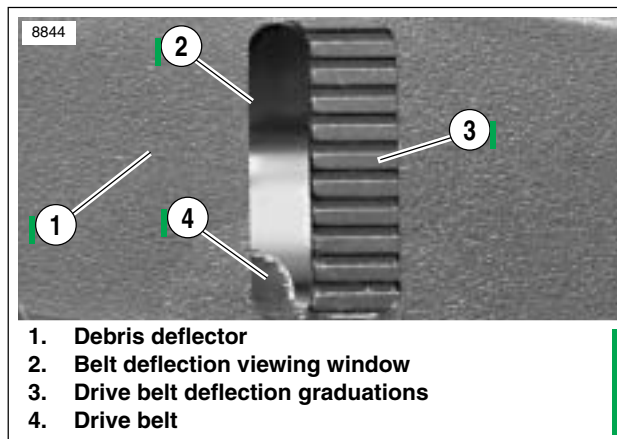

Figure 1-26. Belt Deflection Window
- a. Slide O-ring (4) toward 0 ft-lbs (0 kg) mark (3).
- b. Fit belt cradle (2) against bottom of drive belt approximately half-way between drive pulleys.
- c. Press upward on knob (6) until O-ring slides down to 10 ft-lbs (4.5 kg) mark (5).
- d. See Figure 1-26. Measure belt deflection as viewed through deflection viewing window (2) while holding gauge steady. Deflection graduations (3) are 1/8 in. (3.2 mm) apart.